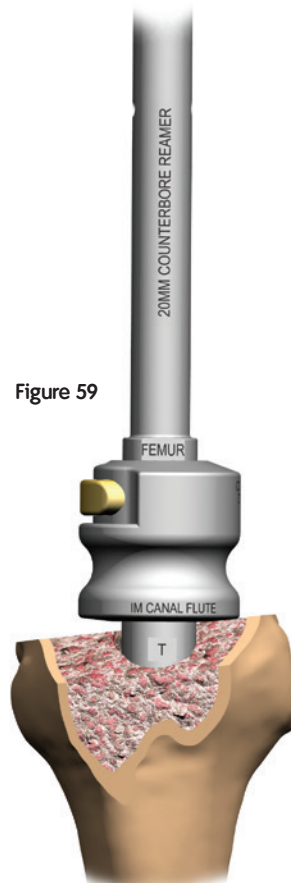

Figure 59
15. Insert the Counterbore Reamer Assembly, still positioned at the "FEMUR" mark, over the Trial Stem Guide and ream until the depth stop contacts the distal femur (Figure 59).